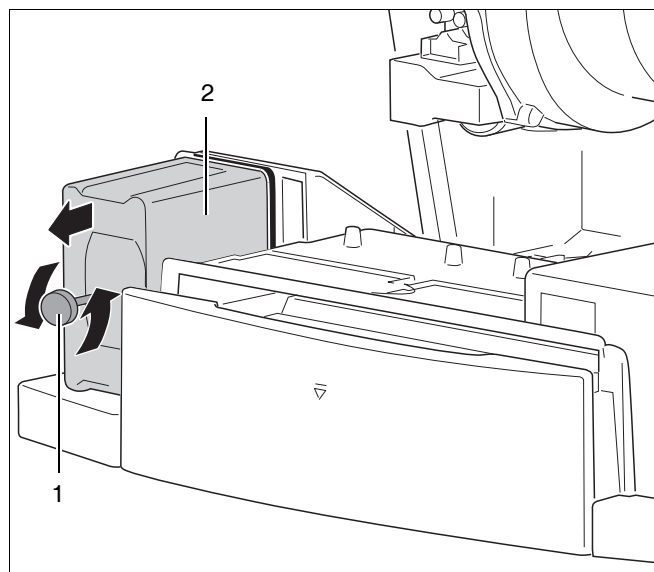

fig. 18 Dismantling the UBA 3
- Loosen the fastening screw of the UBA 3 (see fig. 18, pos. 1).
- Remove the UBA 3 by pulling it forward as indicated by the arrow (see fig. 18, pos. 2).